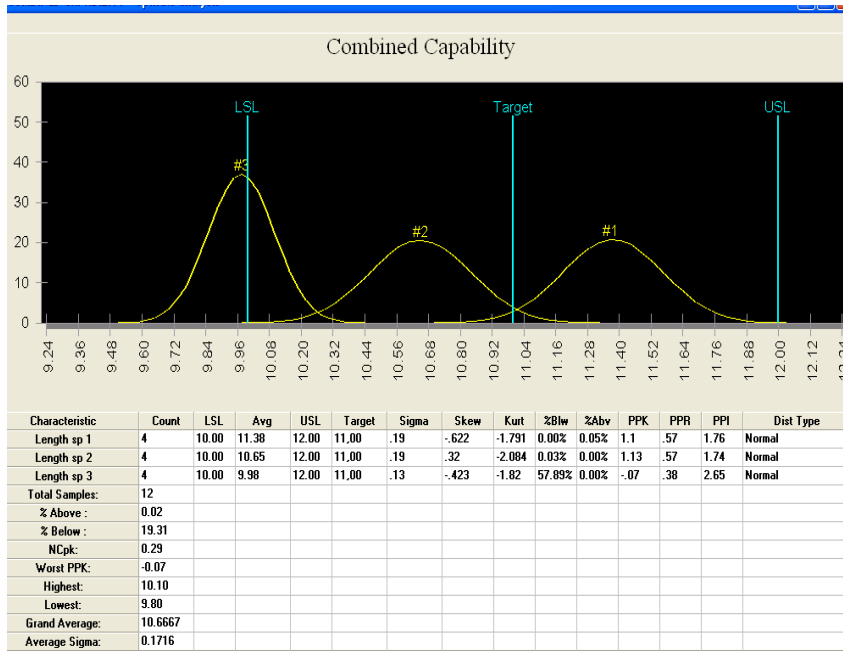

Figure 2: Combined capability
If we take subgroups across parallel processes from the example in figure 2 we get a subgroupsize of 4 and the range chart is showing us variation between processes and the control chart is showing us variation in time. We are missing the cycle to cycle variation completely and also Cpk and Ppk values are representing other results than you normally have if you combine consecutive products in a subgroup but this discussion is out of the scope of this whitepaper. If you setup your SPC software like this you still want to be able to analyze the variation for one specific process. In paragraph 4 we will explain what tools DataLyzer Spectrum has available to make this analysis.
- Combined capability report (See figure 2)